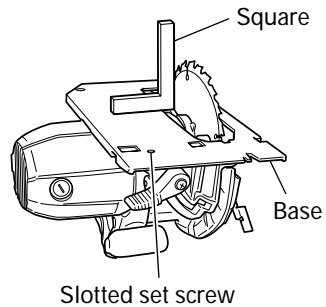

Fig. 20
- (1) Turn the base face up (Fig. 20) and loosen the lever (A).